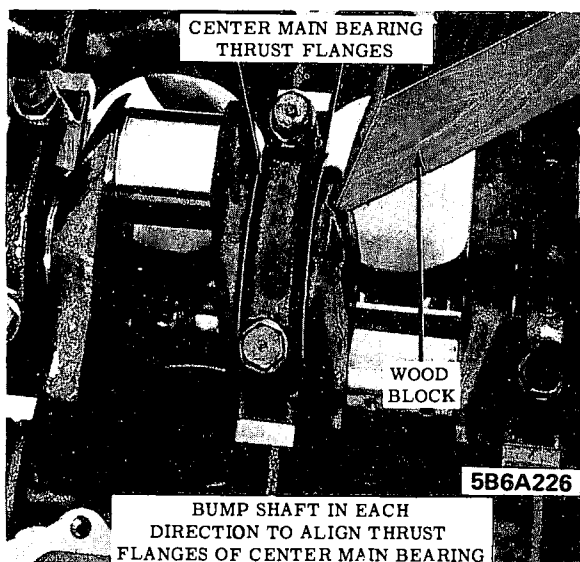

Figure 6A-214 - Aligning Center Main Bearing Flanges
5. With a block of wood (Figure 6A-214) bump shaft in each direction to align thrust flanges of center main bearing.